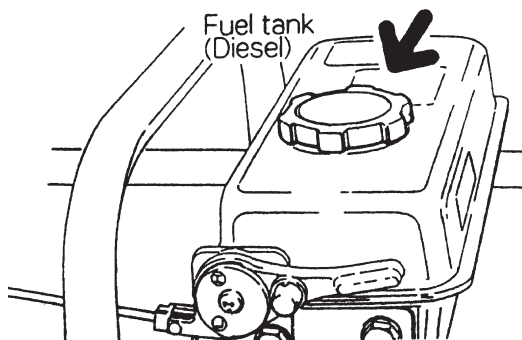

Figure 3. Fuel Tank
1. Fill the fuel tank with automobile diesel fuel (See Figure 3).